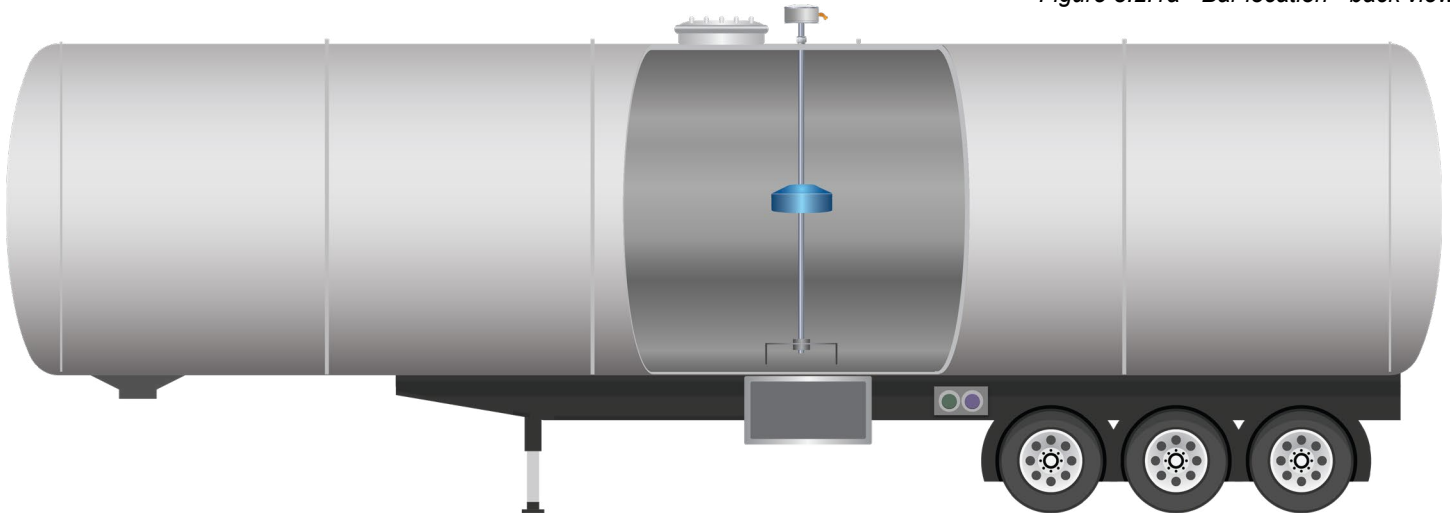

Figure 3.2.1b Bar Location - side view
3. Preferably, position the float for hatch accessibility to facilitate service work; avoid mounting it behind baffles that restrict hatch access. (See Figure 3.2.1b)